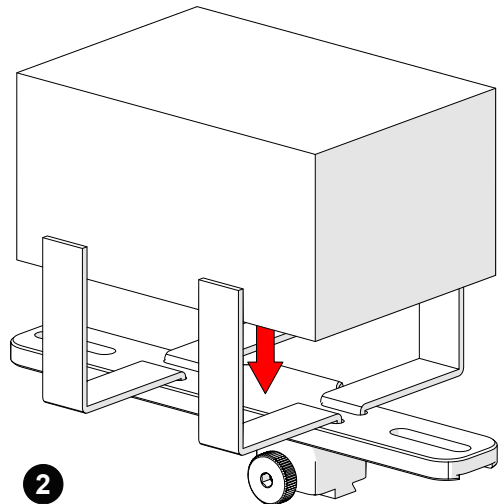

Fig. 80 - Place preamp and wrap velcro
2. Centre and place the preamp on the bracket wrapping the velcro around the preamp (*Fig. 80*).